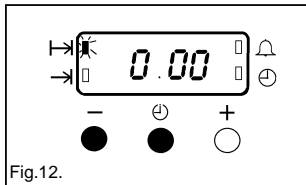

Fig.12.
- i) To cancel an automatic programme press the Selector Control button until the 'Cook Time' indicator neon () flashes. Press the decrease control (-) until the display reads 0.00 as Fig. 12.